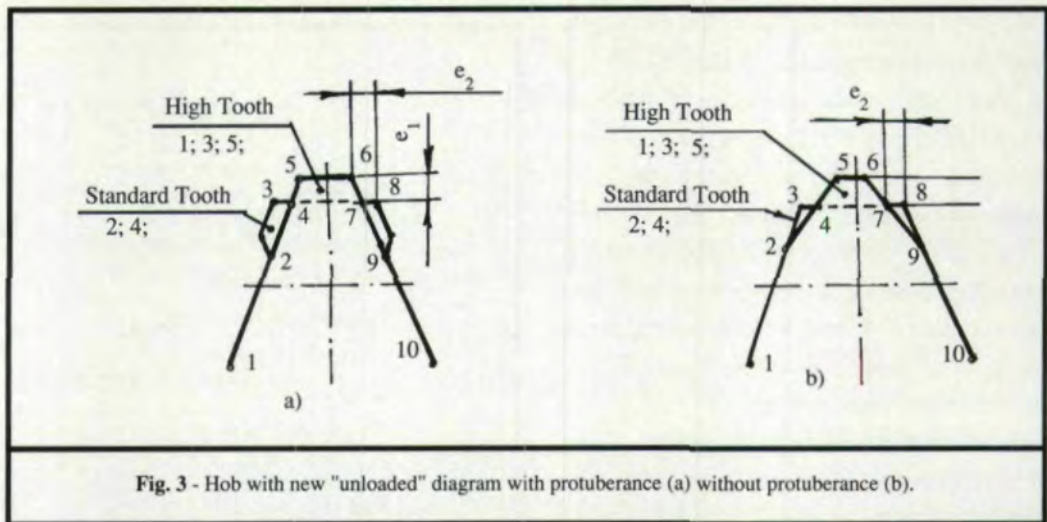

Fig. 3 - Hob with new "unloaded" diagram with protuberance (a) without protuberance (b).
The use of Medvedichkov's progressive hobs cuts down tool wear 2 to 3 times and cutting stress 20% to 40%. On the other hand, the use of the hobs increases the error of involute tooth profile. The author's hob reduces this error. (See Fig. 3.)
Hobs with new diagrams (Fig. 3a) differ from standard ones (Fig. 2a) by alternation of the standard tooth with protuberance with ones that are higher by a value of  $e_1$  and narrower by a value of  $e_2$  and have no protuberance.(5) Hobs without protuberance, but with the same cutting diagram, are shown in Fig. 3b. Cutting edges of high teeth are: edges 1-2; 5-6; 9-10. Standard teeth work with edges 1-2-3-4 and 7-8-9-10. In that case the error of generating involute tooth profiles by a standard (Fig. 2a) hob and by new ones (Fig. 3) are identical.
Hobs with new diagrams (Fig. 3) and equal wear of "high" and "low" (standard) teeth were called